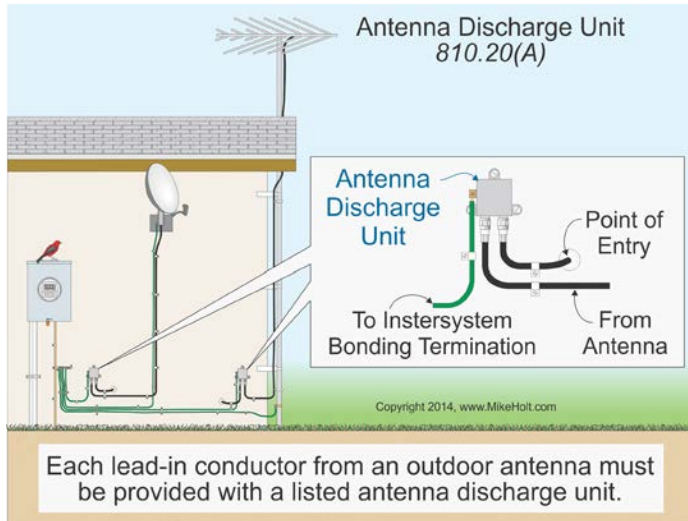

Figure 810–10
(A) Where Required. Each lead-in conductor from an outdoor antenna must be provided with a listed antenna discharge unit. **Figure 810–10**